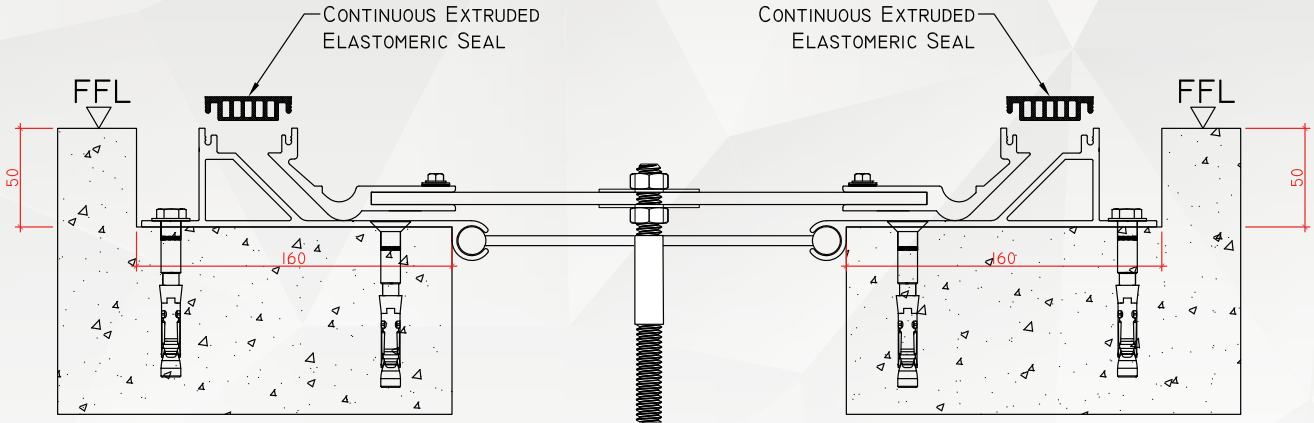
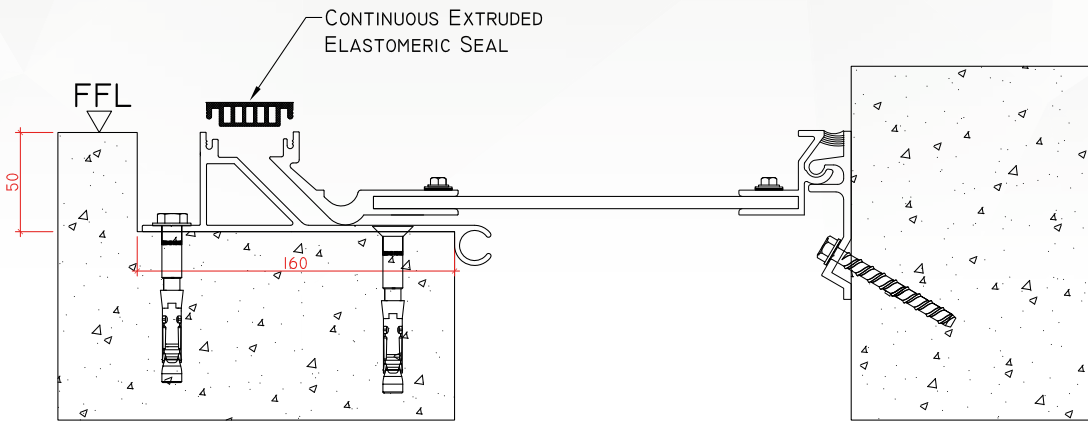

Figure 7.
Figure 8.
18. After the pan cover is installed and all the centering bars have been properly tightened in floor-to-floor installations, insert the Elastomeric Seal on each side of the profile (see figure 7) and one side only for ZK-5200 (see figure 8).